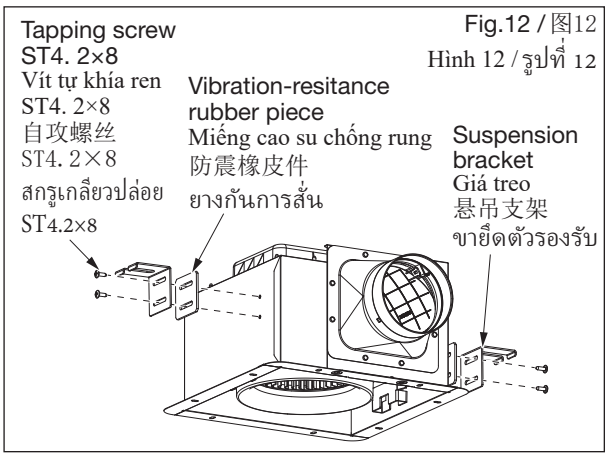

Fig.12 / 图12
① Secure the suspension bracket FV-KB021 (not supply) with screws (not supply) (Fig.12).
用螺丝(另购)固定悬吊支架FV-KB021(另购)(图12)。